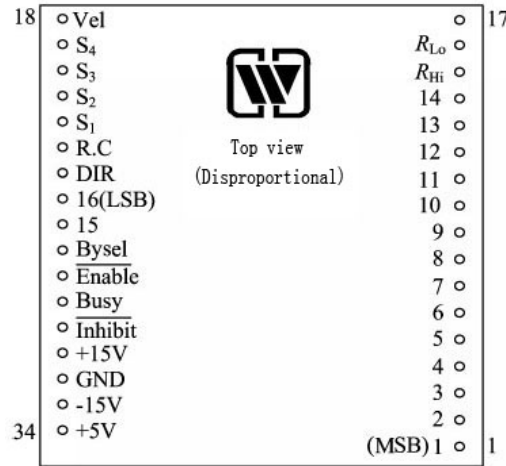

Fig.9 Pin designation (top view)
7. Pin designation (Fig. 9, Table 3)